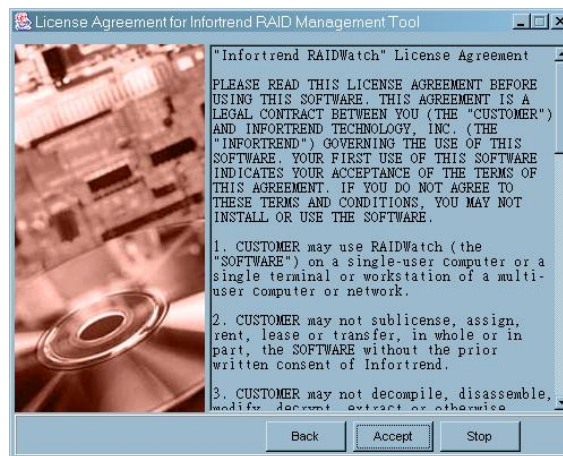
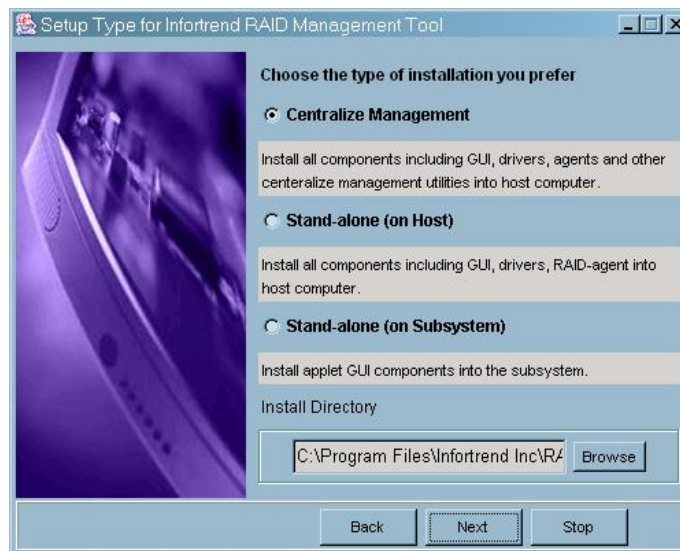

Figure 2-4: License Agreement
Figure 2-5: Installation Options
Step 7. If you selected the “Next” button on *Figure 2-3*, the License Agreement window seen in *Figure 2-4* will appear. First read through the License Agreement. If you are in agreement with the specified terms and wish to continue installing the RAIDWatch program, select “*Accept*.” If you do not wish to continue with the installation process then select the “*Stop*” button.
Step 8. If you accepted the License Agreement in *Figure 2-4*, a new window with three installation options will appear. These options, shown in *Figure 2-5*, are *Centralized Management*, *Stand-alone (on Host)*, and *Stand-alone (on Subsystem)*.